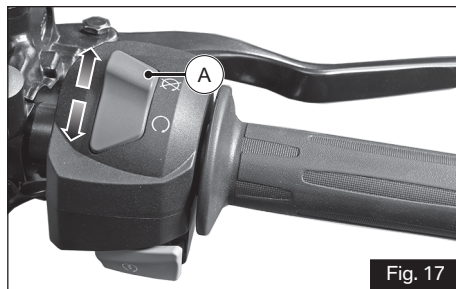

Fig. 17
A) Switch engine cut-off (ref. Fig. 17)